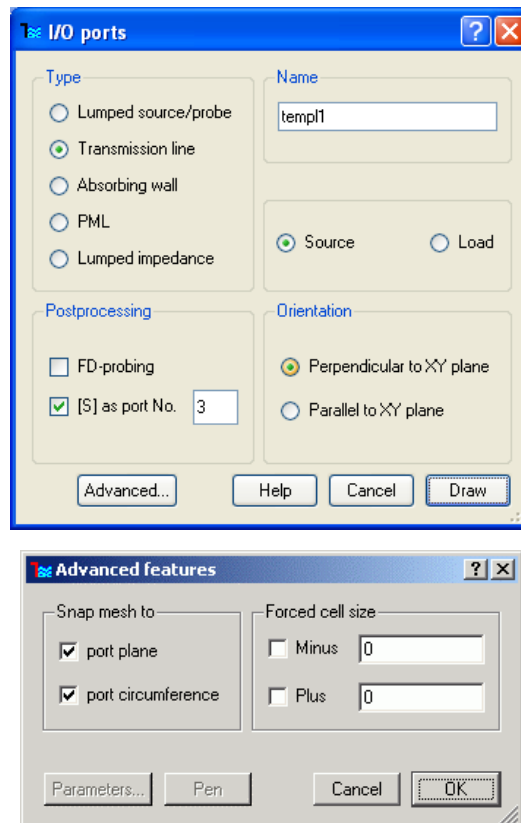

Fig.E 2.4.1-1 Dialogue windows for drawing I/O ports.
As it has been shown in Chapter UG 2 or V2D 2 of the manual in most practical application we can use predefined library UDOs to draw appropriate ports. This section describes the procedure for drawing ports in an alternative - manual way. In fact the commands, which can be found in, the scripts of the port generating UDOs fully correspond to the manual procedures described below. After invoking the command *Draw-I/O Ports* we get a dialogue window presented in the upper part of Fig.E 2.4.1-1.
- The *sources* and *reference planes* are marked by arrows corresponding to the anticipated direction of the energy flow (see Fig.E 2.4.1-2). The *absorbing ports* are marked by triangles with vertices towards the direction from which the wave is coming (imitating unechoic chamber walls). The orientation of the *I/O ports* and *reference planes* is important. After drawing them please verify if the orientation is correct, and if necessary change it using the *Edit-Port* command.
Fig.E 2.4.1-2 shows a zoomed display of a transmission line input port. It emphasises one more crucial issue in the *transmission line port* definition. Namely, line marking the port should be drawn parallel to one of the coordinate axis, precisely within the metal body of the waveguide. In fact, *QW-Editor* will not allow you to draw the *port* obliquely. However, if you draw the *port* parallel to the *Y*-axis, but either too short or not starting precisely at the metal wall, only a part of the guide cross-section will be used for energy injection, leading to wrong simulation results. If you draw it too long, protruding into the metal wall of the guide or even further, the simulation results may be correct, but the simulation time may drastically increase if the mesh snapping properties of the *port* circumference imposed on the mesh snapping by the geometry produce a very small cell. This discussion underlines that if the user decides to draw a port in a manual way this operation needs to be done with special care.
Fig.E 2.4.1-2 A fragment of a 2D *window* showing input port (marked by a red line with three red arrows) and its reference plane for S-parameters calculation (marked by a blue line with one blue arrow).
Note that checking the port for $[S]$ automatically introduces a *reference plane* situated at some distance from the *port* (Fig.E 2.4.1-2). The *reference plane* is the plane at which the data for S-parameter calculation is collected. The user should move it to the proper position taking into account the following criteria: